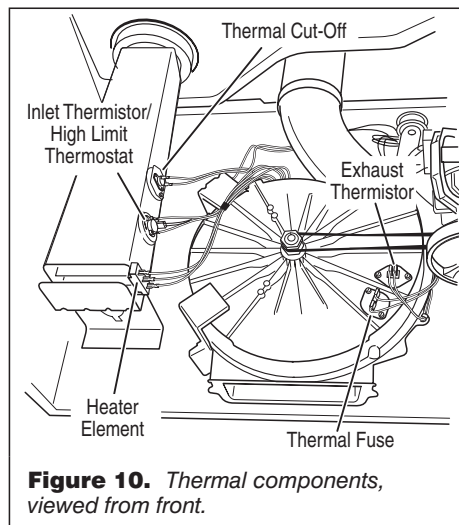

Figure 10. Thermal components, viewed from front.
Locate the components using figure 2, page 6; and figure 10.
- ➔ Check wire connections at the machine control electronics and thermistor. See Accessing & Removing the Electronic Assemblies, page 11; and for thermistor location, figure 10, page 8.
- ➔ Check wire connections at the machine control electronics and inlet thermistor. See Accessing & Removing the Electronics Assemblies, page 11, and for inlet thermistor location see figure 10, page 8.
- ➔ Check the resistance of the inlet thermistor. See figure 10, page 8 for location.
2. Access the thermal fuse by first removing the front panel. See Removing the Front Panel/Drum Assembly, page 11; and for thermal fuse location see figure 10, page 8.
3. Using an ohmmeter, check the continuity across the thermal cut-off. See figure 10, page 8, for location.